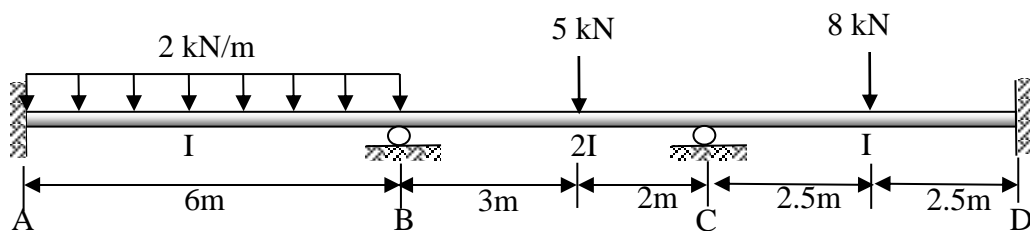

Figure 1(a) / Rajah 1(a)
- (a) A continuous beam is loaded as shown in Figure 1(a). Calculate internal moment at support A, B and C by using Slope Deflection Method.